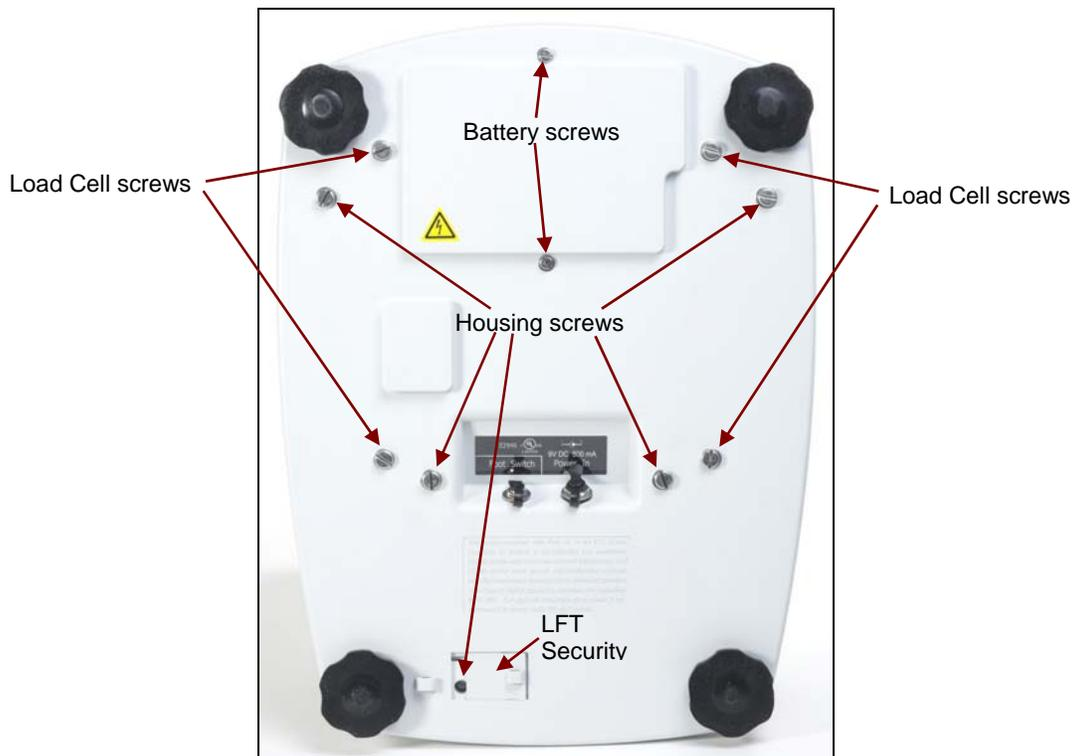

Figure 3-1. Scale Bottom.
3. Turn the scale over and remove the five screws which hold the Top Housing. (See Figure 3-1.) Note that one of these is smaller, and is beneath the Security Slide.
3. Remove the four screws holding the Load Cell Assembly to the Bottom Housing. (See Figure 3-1.)
9. Re-install the four screws holding the Load Cell Assembly to the Bottom Housing. (See Figure 3-1.)